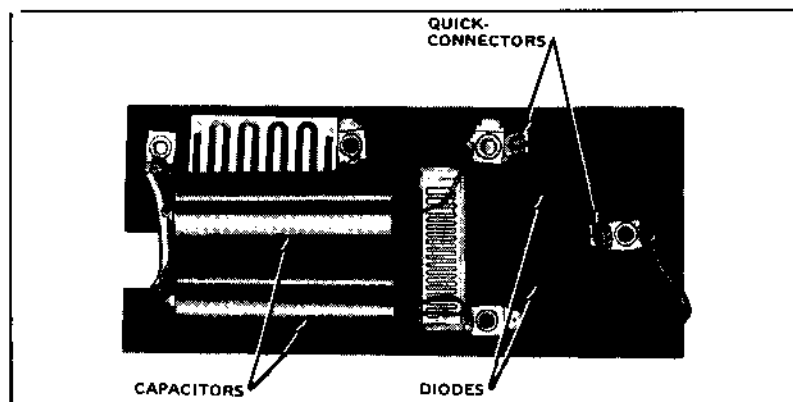
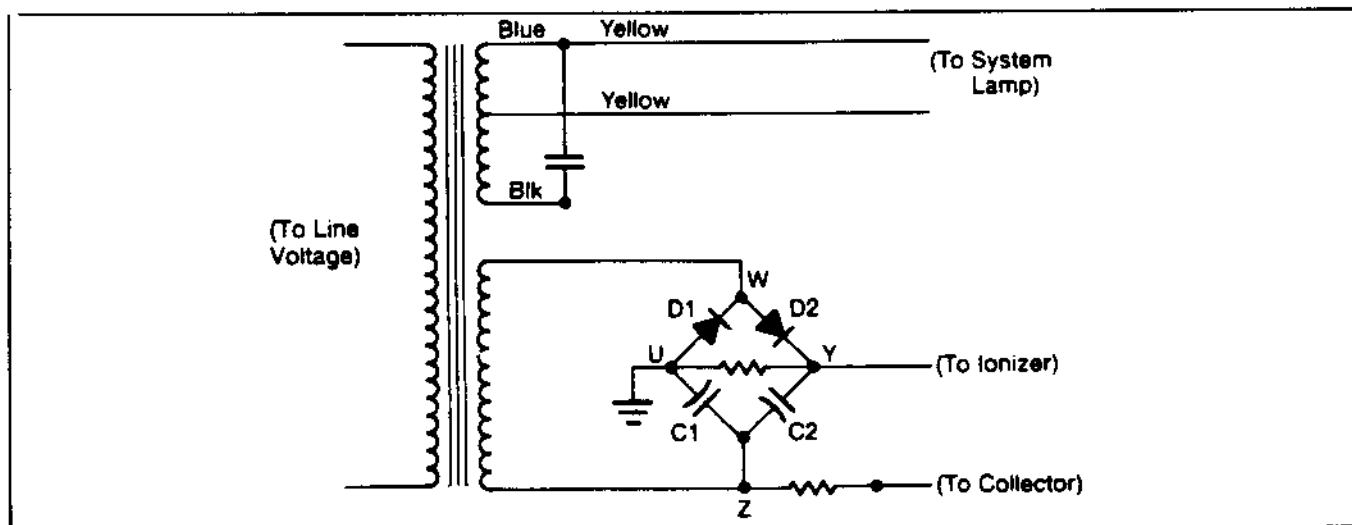

Figure 23. Power Supply Circuit Board.
Figure 24. High Voltage Power Supply Schematic.
b. Using voltmeter set to the 10000 Vdc range, measure the voltage from point R to Ground and point Y to Ground on the power supply circuit board (See Figure 23). The power supply circuit board schematic diagram is shown in Figure 24.
d. If the voltage is CORRECT (same as the cell contacts), unplug the 2 quick-connectors on the diodes (See Figure 23), and proceed to Step 11.
c. Unplug the 2 quick-connectors on the diodes mounted on the power supply circuit board (See Figure 23). These quick-connectors connect the voltage doubler circuit and the high voltage transformer.
- b. Connect the free end of diode 2 to termination point Y (See Figure 23). Leave diode 1 disconnected at termination point W.